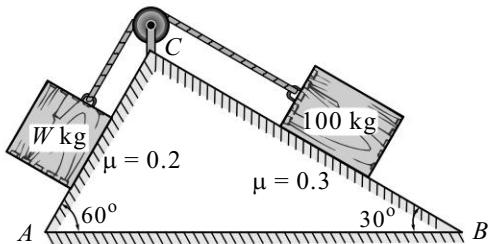

Fig. 8.E11
12. Find the tensions in the cords of the inclined plane system shown in Fig. 8.E12.